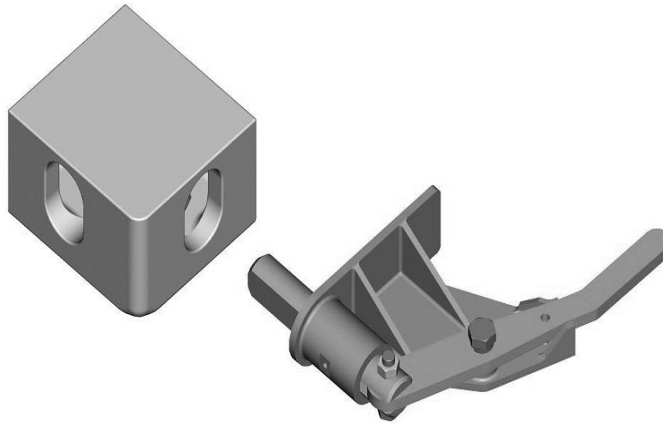

Figure 10
- 6.2.2 Two twistlocks mounted at the rear of the trailer with the stems vertical and two off locking pins, mounted horizontally on the bulkhead and engaging with the front apertures of the corner fittings, as per figure 10.